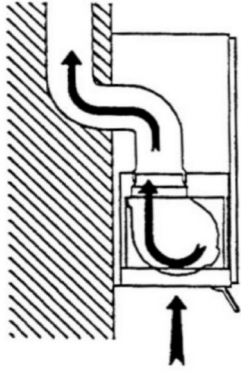

Fig. 4
**Exhausting (Fig. 4).** The carbon filters should not be installed on the hood in exhausting version.